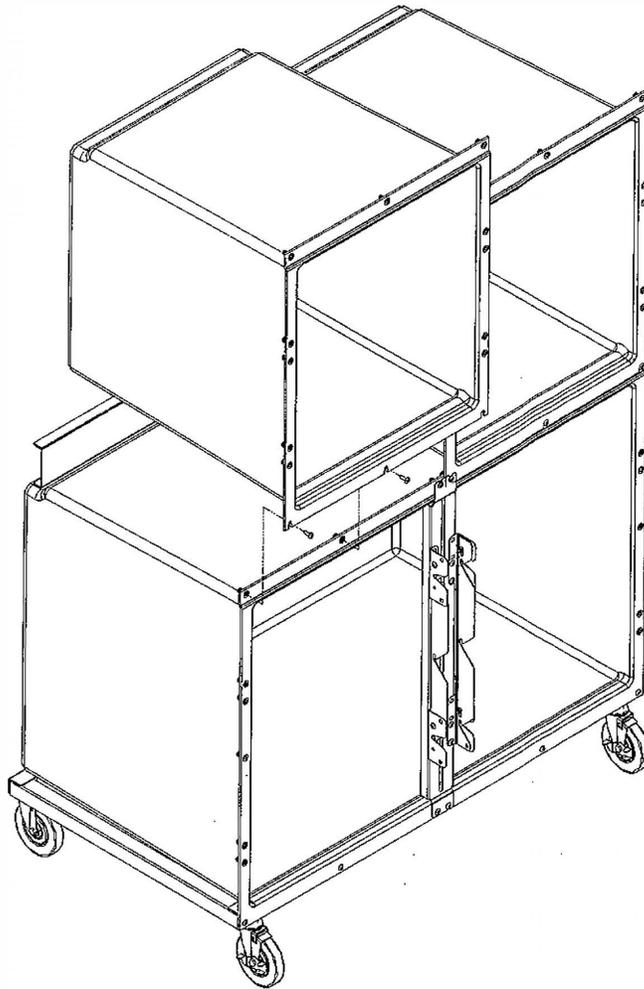

Figure 5
1. Place two screws (062.2507.05) in the holes indicated in Figure 5. **DO NOT** tighten all the way.